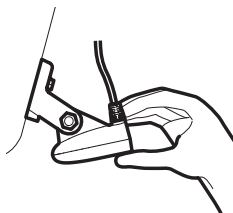

Figure 20
- Adjust the initial angle of the transducer from back to front by rotating the transducer until the side seam on the transducer is almost parallel with the bottom of the boat, one click at a time in either direction (Figure 20 and 21).
9. Re-install the transducer to the mounting bracket, making sure to assemble the ratchets in the same location they had before. (See Figures 17a - 17d and Figure 20 - 21).